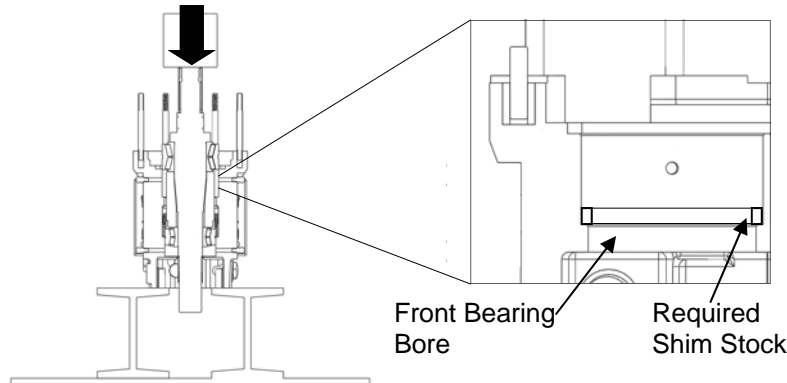

Figure 52: Pressing Shafts into Gear Case
4) Set the gear case on a press with the fluid end side facing up. Place the required thickness of shim stock so it sits on the shoulder of the front shaft bore of gear case. Apply lubricant to the outside of the bearings. Place shaft assembly (one shaft at a time) in the gear case with the spline end facing up. Making sure that the drive and the short shafts are in the correct bores, press the shafts into gear case until bearings are fully seated (Figure 52). See Table 4 on page 25 for the required force.